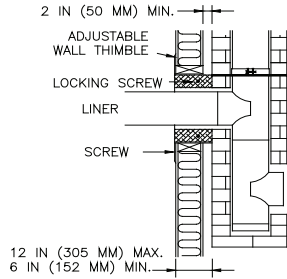

Fig. 6
- Adjust the insulated wall radiation shield length to fit the wall thickness and lock the two parts together with three (3) screws supplied.
- Slide the wall radiation shield over the length and fix it to the wall using four (4) screws supplied (fig. 6).